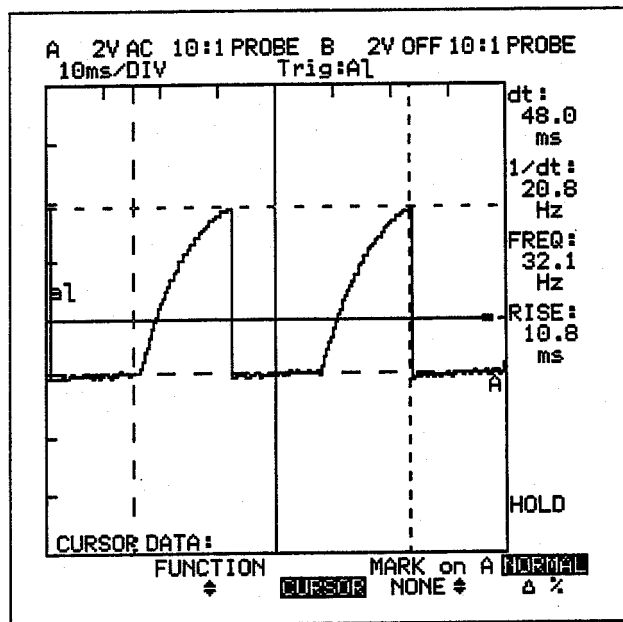

Figure 6.21
- Use **← CURSOR** and **CURSOR →** to locate the cursors as shown in Figure 6-21.